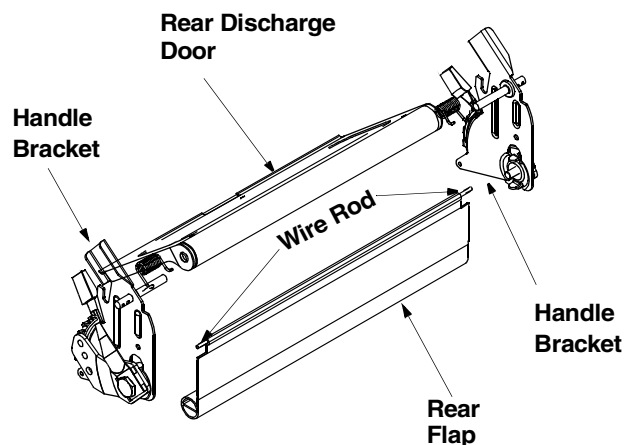

Figure 20
- To remove rear flap, cut off the flat end of the wire rod which secures it to the deck. See Figure 20.